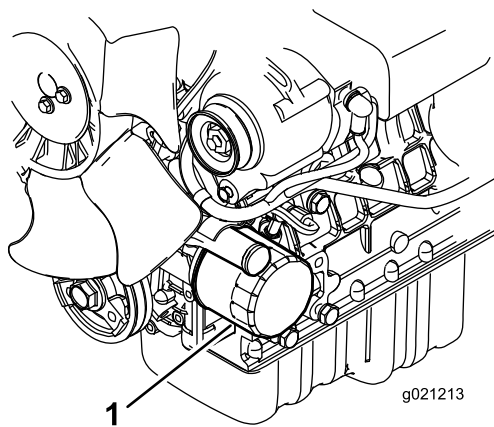

Figure 49
3. Remove the oil filter (Figure 49).